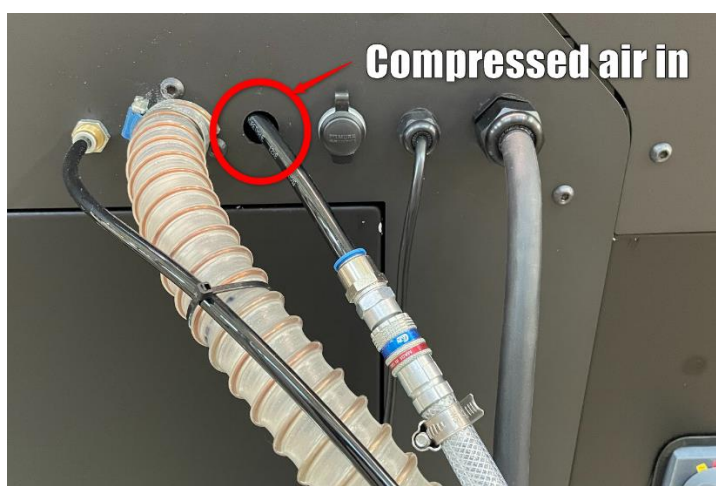

Figure 15 (Port for compressed air, topmost coupling)
- Attach the existing compressed air system to the machine's compressed air coupling, located on the backside of the machine (fig 15).